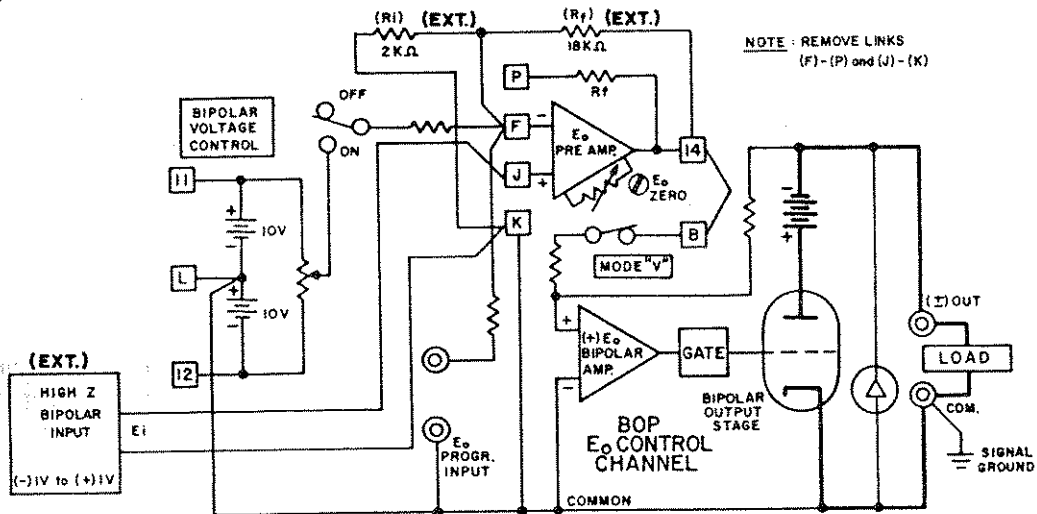

FIG. 3-7 BOP D-C OUTPUT VOLTAGE CONTROL WITH A HIGH IMPEDANCE, $(\pm) 1V$ SIGNAL SOURCE
3-20 If, for example, the BOP d-c output voltage is to be controlled by means of a bipolar, 1 volt, high impedance source, it can be connected to the BOP as shown in FIG. 3-7.
- 3-21 As seen in FIG. 3-7, the original input feedback components of the E_O PRE-AMP have been bypassed and are replaced by external resistors (small, metal film or wirewound type resistors may be used and connected directly to the REAR PROGRAMMING CONNECTOR terminals as shown). The E_O PRE-AMP is used in the non-inverting configuration. Its output voltage (the necessary BOP control voltage) is given by: